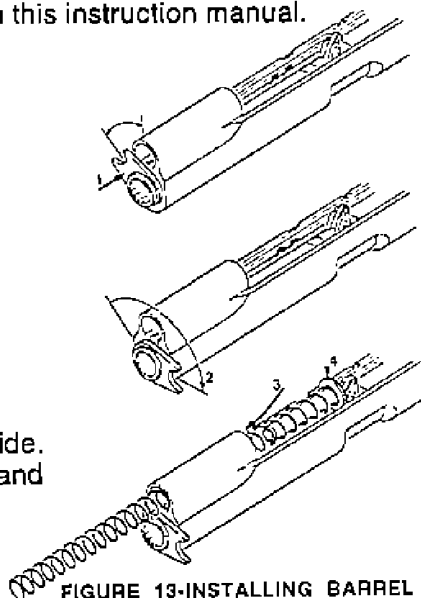

FIGURE 13-INSTALLING BARREL BUSHING AND RECOIL SPRINGS
2. (See Figure 13). Place barrel bushing over muzzle of barrel and into slide until it is flush with the face of the slide, (Step 1). Turn bushing clockwise as far as it will go, (Step 2).